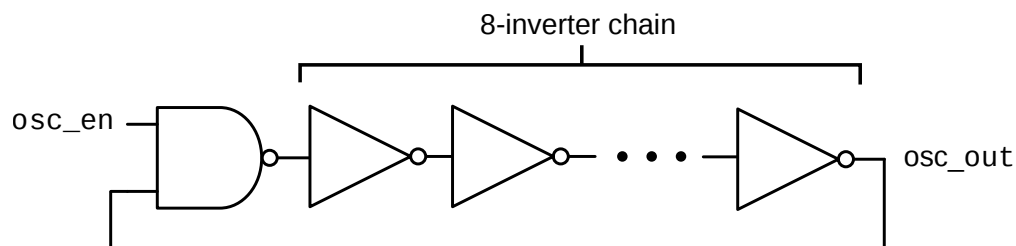

Figure 3
- a. Create the schematic for the ring oscillator design in Figure 3, named ring_osc. For the inverter and NAND, use the INV1 cell from CAD 2 (copy over from CAD 2 to keep the design files between CAD's independent), and the NAND2 from Parts 1 and 2 of this CAD.
- b. Collect the measurements in Table 2 for the ring oscillator schematic. The average power consumption should be measured over the 4ns immediately after `osc_en` transitions to logic '1'. The power measurement should be taken over the entirety of Figure 3 (i.e. it should include the sum of power consumed by both the NAND gate and all 8 inverters).